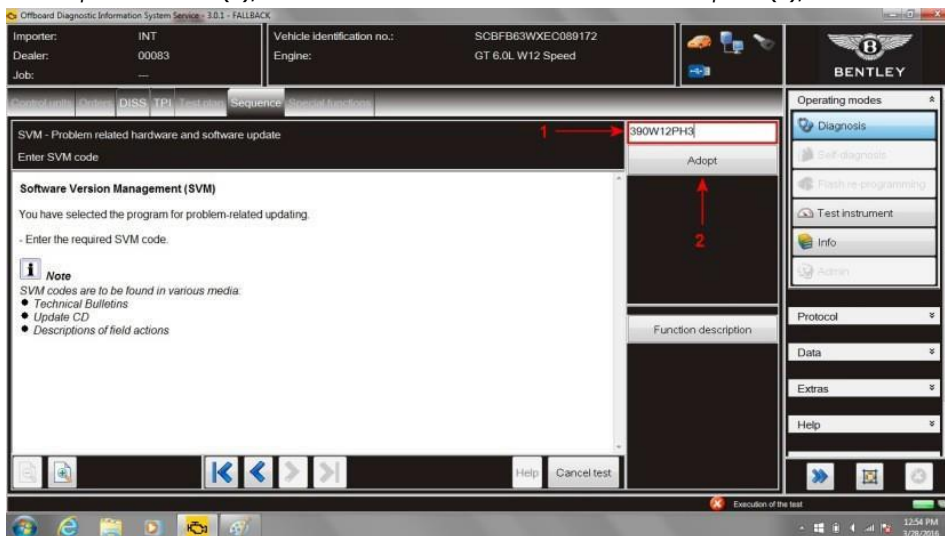

Figure 2
9. AtSVMprocess screen enter (1) the specificSVM code **390W12PH3** and then *Adopt* (2) (see Figure 2)